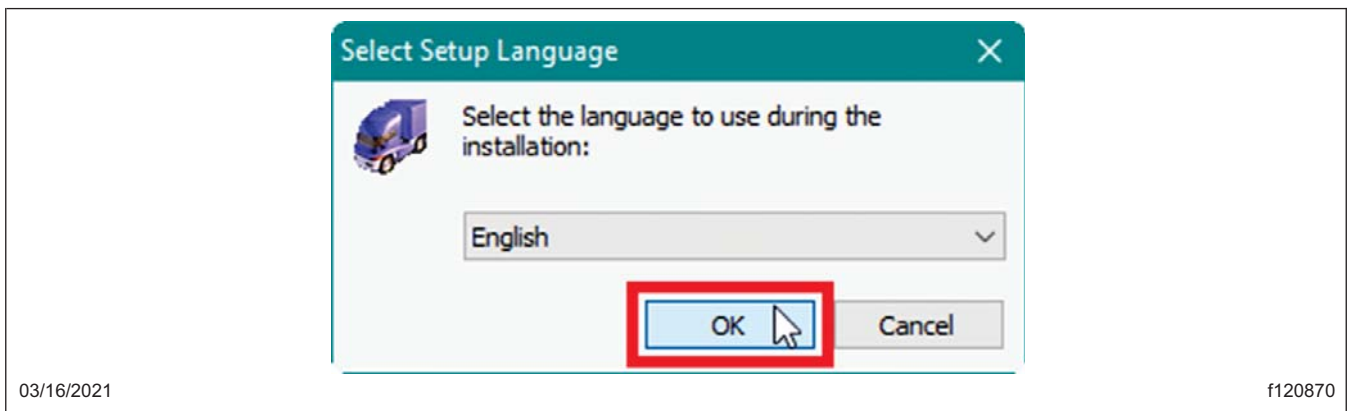

Fig. 10, Language Selection
- 7.4 When asked to 'Select Setup Language,' choose English and select 'OK.' See Fig. 10.